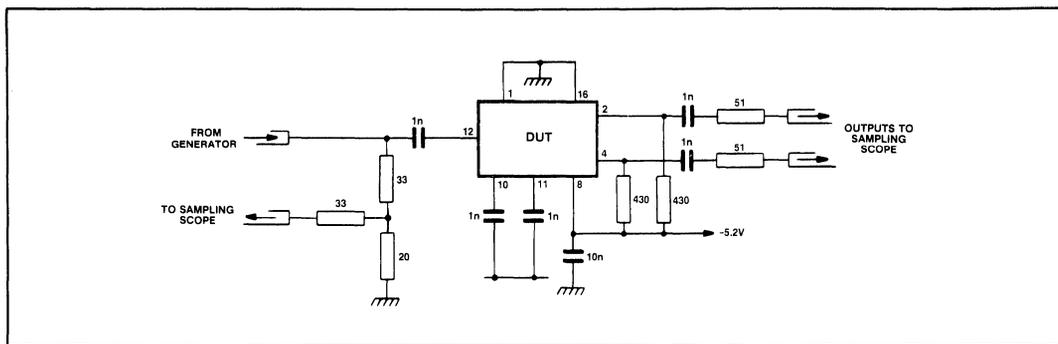

Fig.6 Toggle frequency test circuit
1. The clock input (pin 12) should be capacitively coupled to the signal source. The input signal path is completed by connecting a decoupling capacitor from VREF1 (pin 11) to ground. VREF2 (pin 10) should also be decoupled with a suitable capacitor, see Figs. 6 and 7.